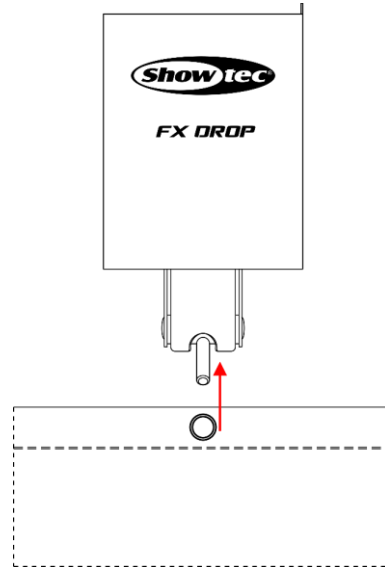

Fig. 06
- 02) Hang the object by sliding the grommet onto the **drop hook (03)** as shown on Fig. 06.